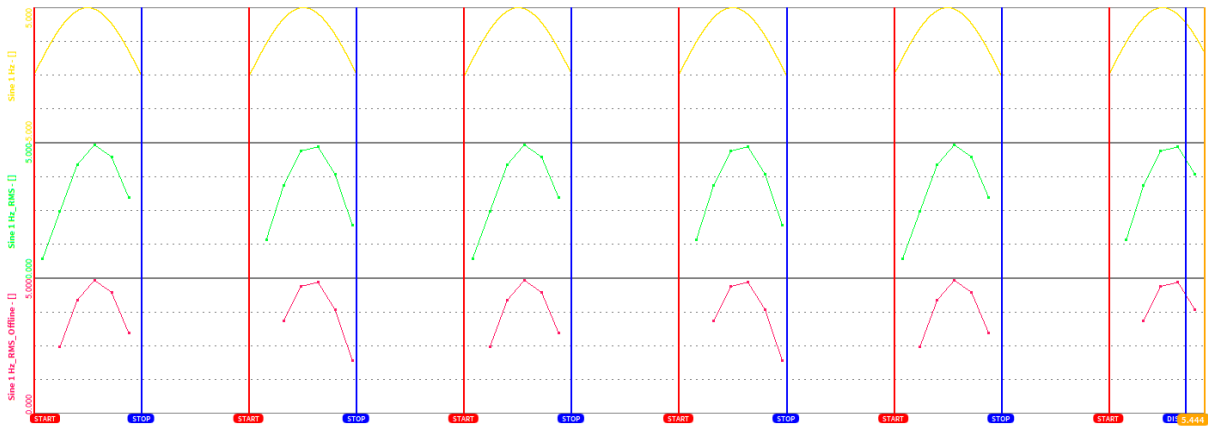

Fig. 7.166: Deviation of Offline and Online Statistics channels in case of Event based Waveform recording
- Be aware that an Offline Statistics channel will differ from an Online Statistics channel, i.e. at the beginning of the file or in case of Event based waveform recording (see *Triggered Events*). In the example displayed in Fig. 7.166, the green channel is an online calculated Statistics channel applied on the yellow analog channel and the red channel is an offline calculated Statistics channel applied on the yellow analog channel with identical channel settings. The deviation of the green and the red channel is due to the availability of the full analog data during online calculation. During the offline calculation, only the event based recorded analog data is available.